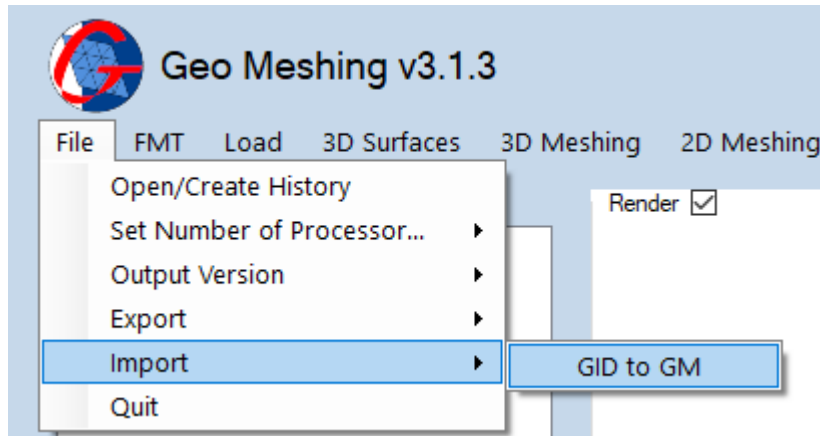

Figure 15: File Menu – Export.
- **File Menu, Import:** This option (shown in Figure 15) has a submenu with *GID to GM* option.